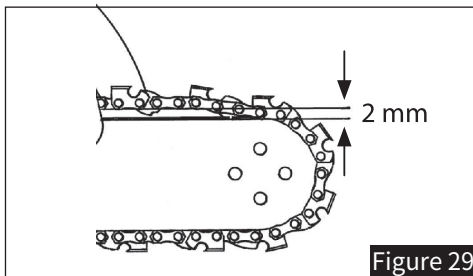

Figure 29
- Pull the saw chain about 2mm away from the middle of the guide bar (see Figure 29).